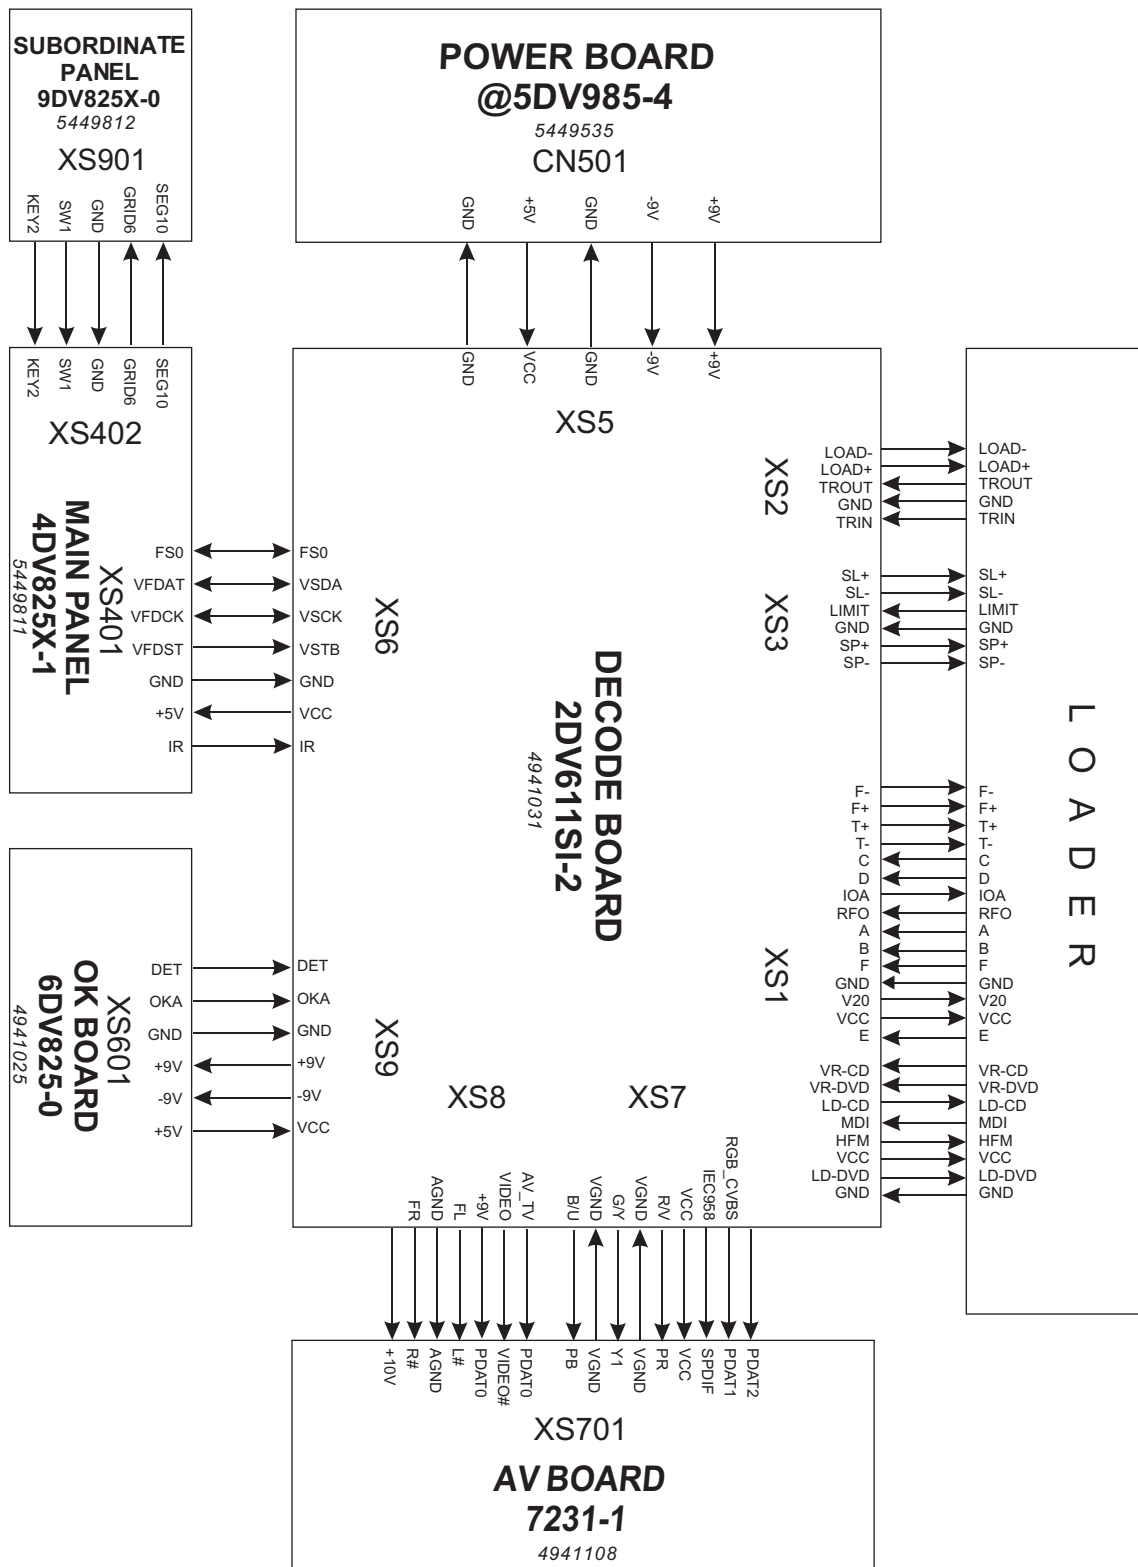

Figure 3.1.4 Diagram for PCB wire of DV826X(RU)
PCB board wire diagram of DV826X(RU) machine is shown in figure 3.1.4.